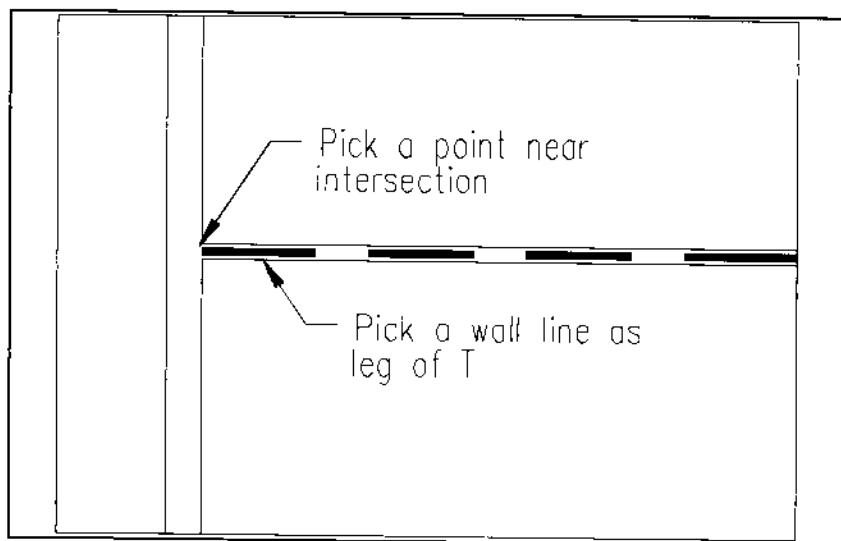

Figure 21.
3. Pick a point at the intersection of the wall lines. When the aperture box appears, select one of the wall lines as indicated by Figure 21.
- > Pick leg of the T (NEArest): **[the aperture box will appear; pick one of the wall lines as shown in Figure 21]**